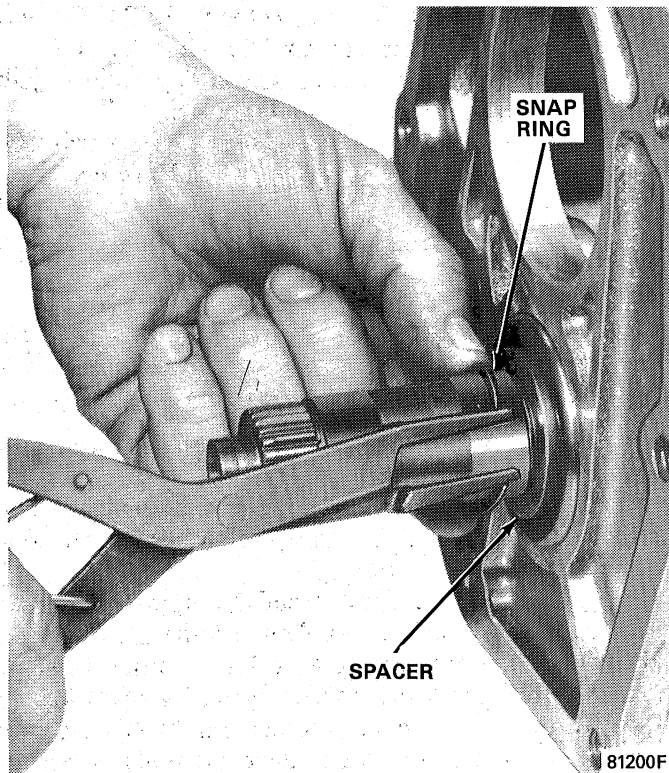

Fig. 2B-50 Countershaft Snap Ring Removal/Installation
(24) Using hammer and punch, remove roll pin from forward end of reverse idler shaft (fig. 2B-19).
(25) Remove reverse idler shaft and gear from transmission case. Note position of reverse idler gear for assembly reference.
(26) Remove countershaft front bearing from transmission case using arbor press.